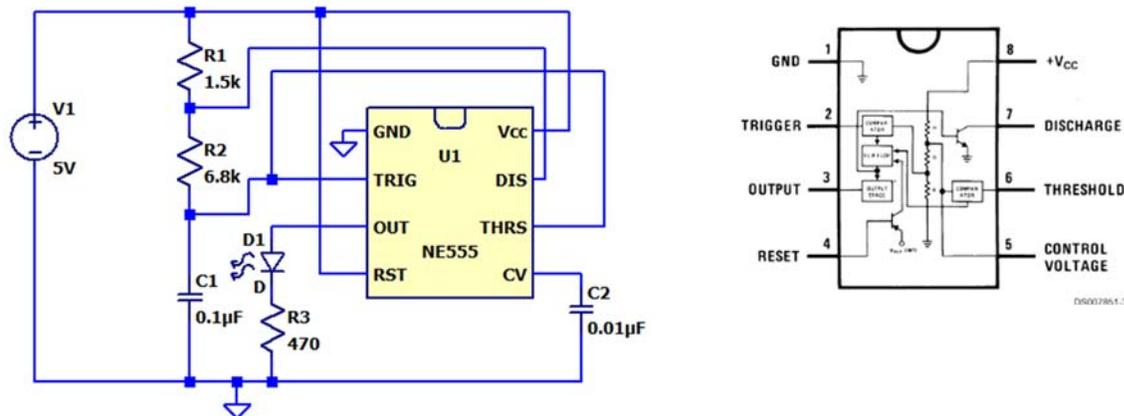

Figure D-5. D1 is an LED
- Wire the astable multivibrator shown in Figure D-5 on your protoboard.